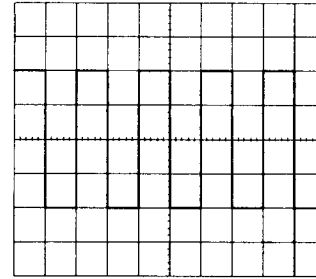

Figure 4-3
- 5) Set the AC-GND-DC switch to the AC state. A waveform as shown in the figure 4-3 will be displayed on the CRT screen
- 8) Adjust the ▲ ▼ POSITION and ◀ ▶ POSITION controls in appropriate positions so that the displayed waveform is aligned with the graticule and voltage(V_{p-p}) and period(T) can be read conveniently. The above are the basic operating procedures of the oscilloscope. The above procedures are for single-channel operation with CH 1. Single-channel operation with CH 2 can also be achieved in a similar manner. Further operation methods are explained in the subsequent paragraph.